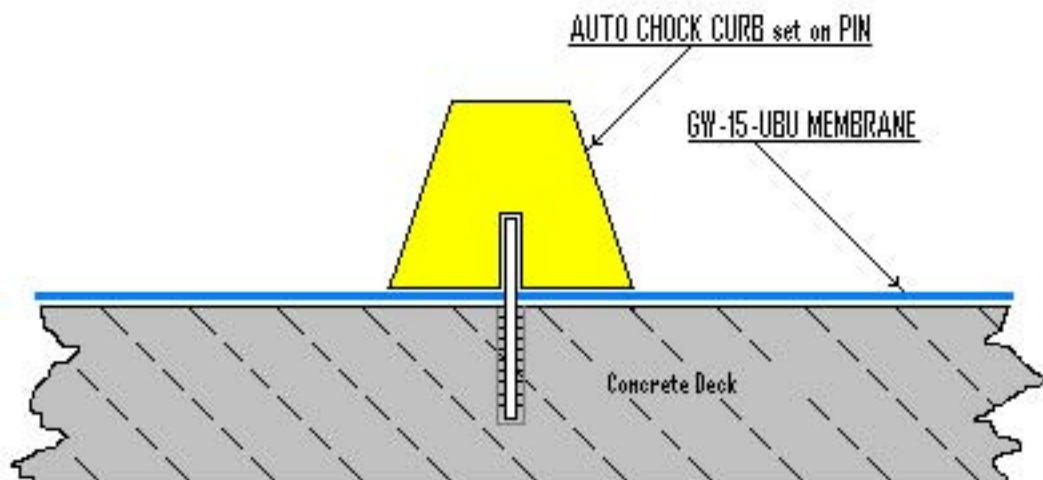

Fig. 5
- (C) Check curb stops and determine if they can be removed prior to installing the deck coating under the curb stops. If the curb stops can not be removed, plan to install a caulk cove and overcoat it with the deck coating. (See: GW-15 Details, Fig. 5, 6, & 7).